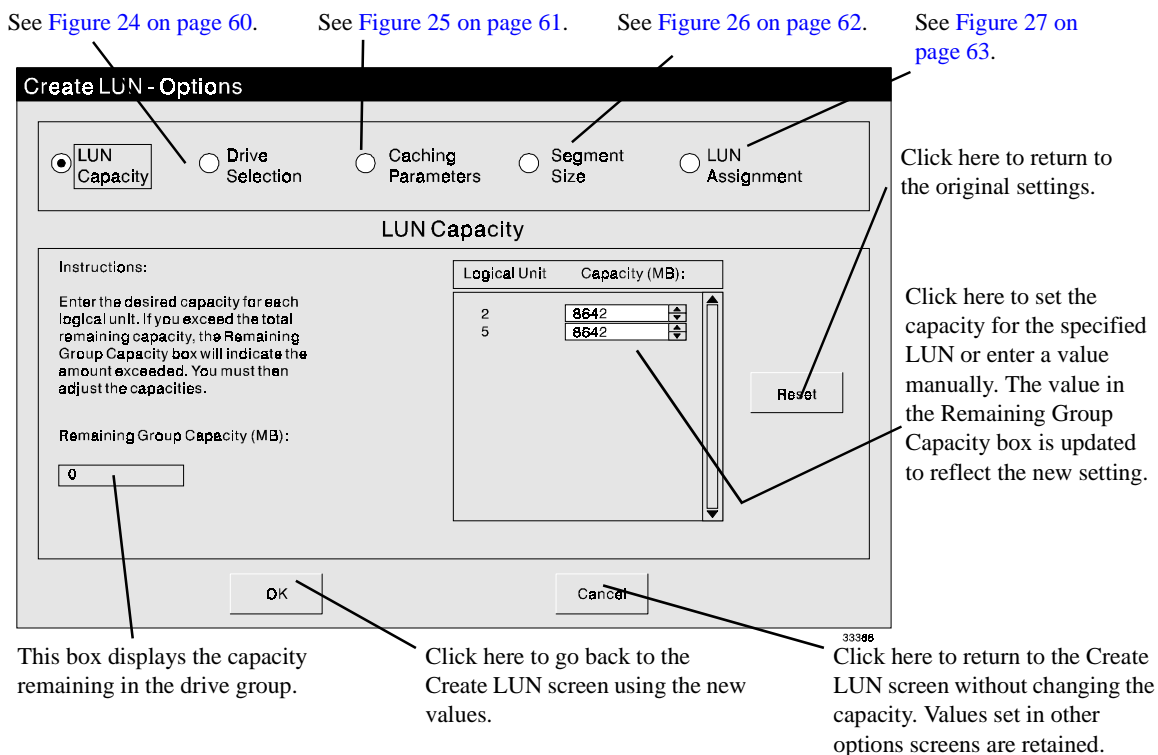
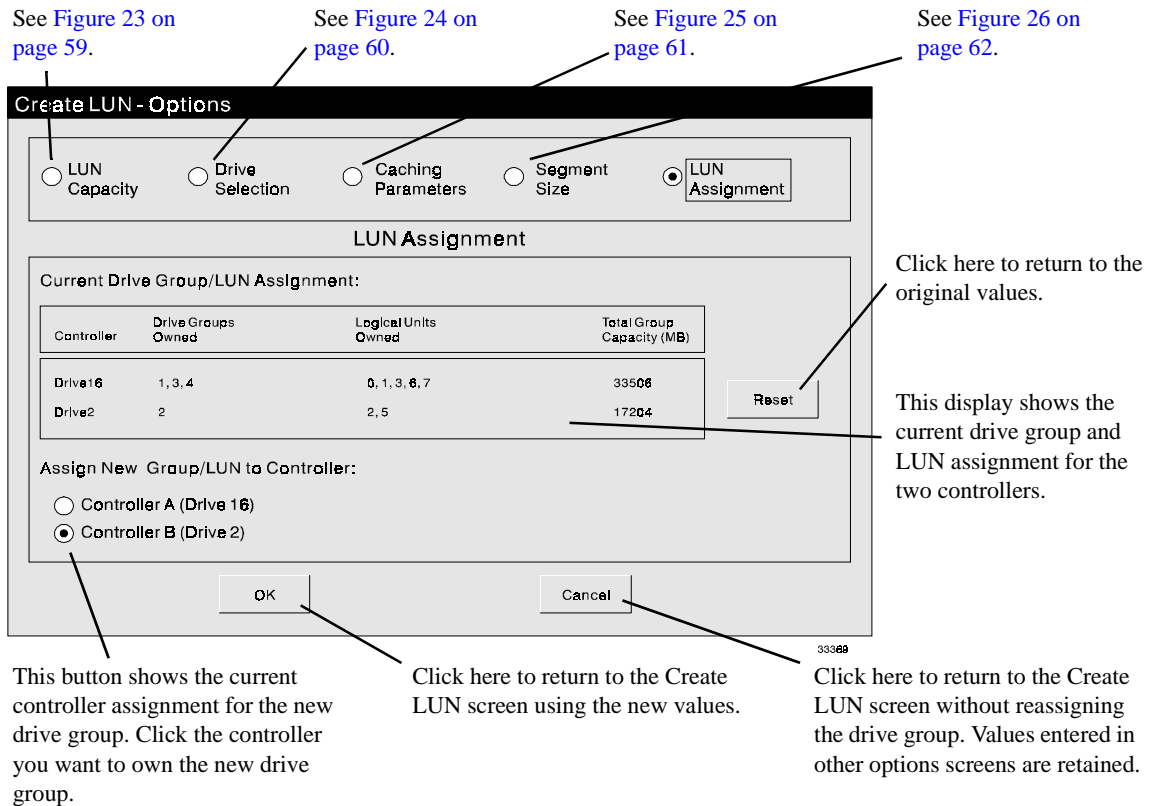

Figure 23. LUN Capacity Screen
Figure 27. Set LUN Assignment Screen
Click here to view or change LUN options (capacity, drives, caching, segment size, and controller assignment). See Figure 23 through Figure 27 for examples of those options.
- The capacity of the LUNs to be created (see Figure 23 on page 59).
- The controller that “owns” the new LUN. This option is allowed only if your RAID Controller has active/active redundant controllers (see Figure 27 on page 63).
See Figure 23 on page 59.
See Figure 27 on page 63.